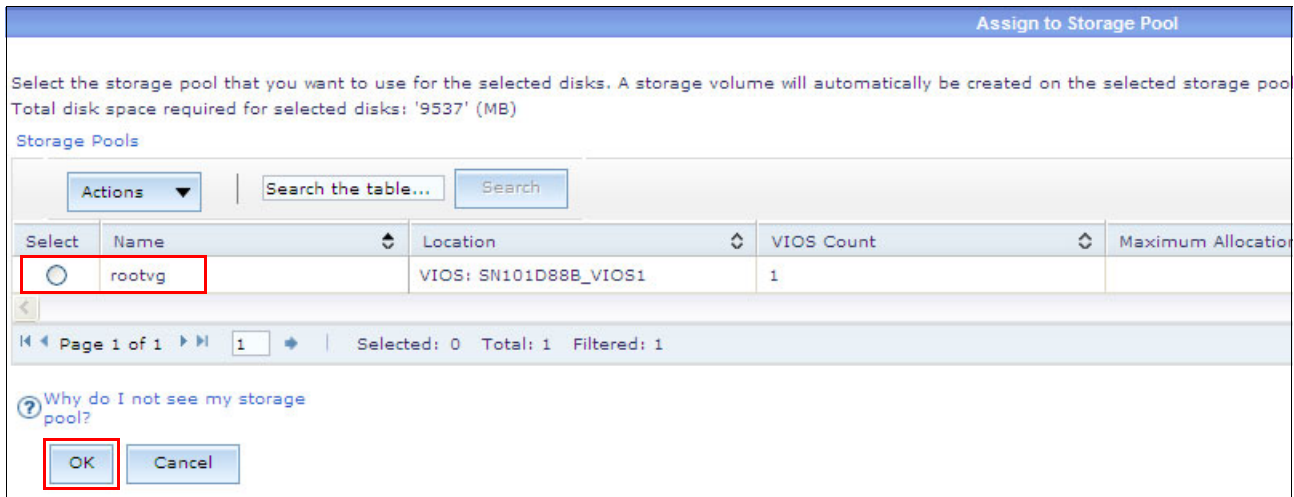

Figure 10-133 Assigning a disk to a new virtual server
- Assign the disk to a new virtual server from the VIOS rootvg storage pool as shown in Figure 10-133. Click **OK**.